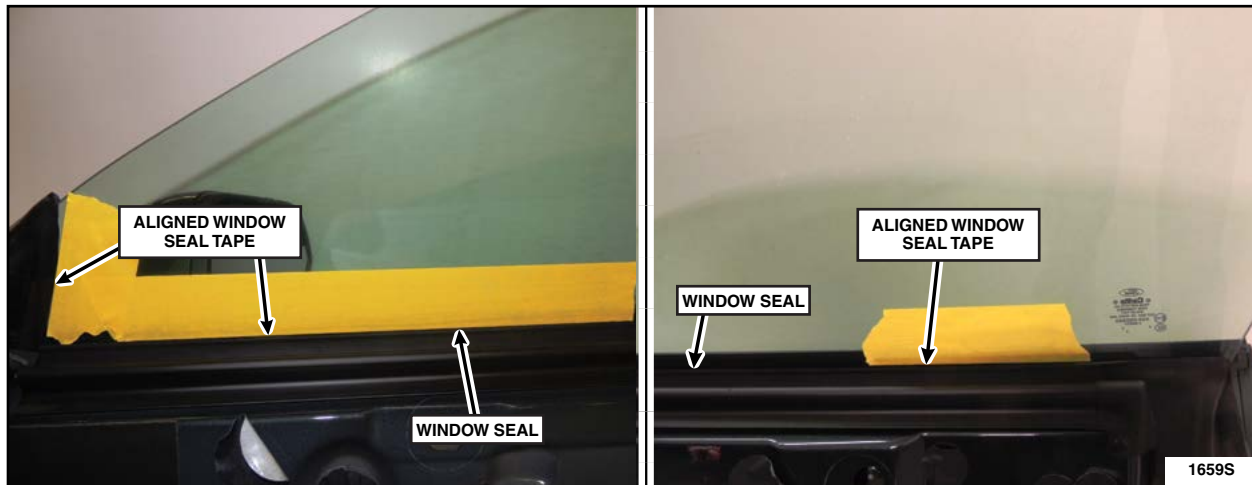

FIGURE 18
2. Align and apply masking tape or equivalent to window glass fore and aft along window seals as reference points for alignment during re-installation of the window glass. See Figure 18.
NOTE: When reinstalling the window glass, align the tape with the window seal to ensure proper fit before tightening the fasteners. Door window glass adjustment is not necessary when following this procedure. See Figure 18.